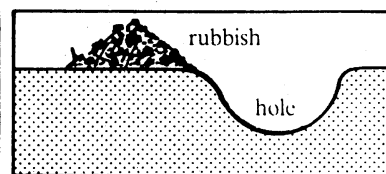

Figure 5
- 3 **Landfill bioreactors** are used to generate biogas from rubbish. Rubbish is tipped into a hole in waste ground, and allowed to produce biogas. (Figure 5).